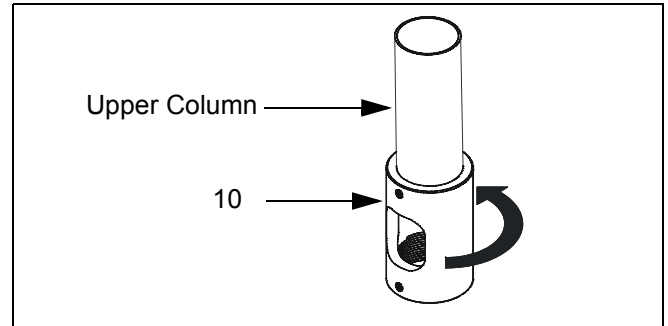

Figure 2: Install Adapter
1. Screw adapter (10) onto upper 1-1/2" NPT threaded column by hand (See Figure 2).